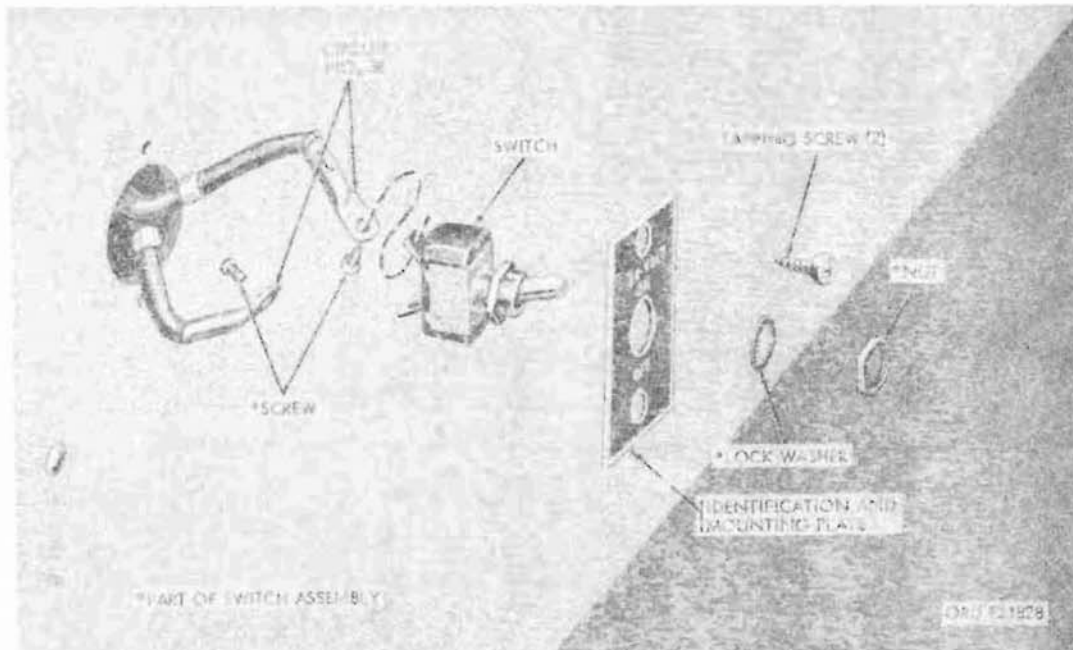

Figure 393. Dome-light switch - 24-volt
(1) Removal.
- (a) Remove two screws from dome-light switch identification and mounting plate, and pull plate away from wall (fig. 393).
(2) Installation.
- (c) Replace two wires on switch (fig. 393), and retape (refer to TB-ORD 650).